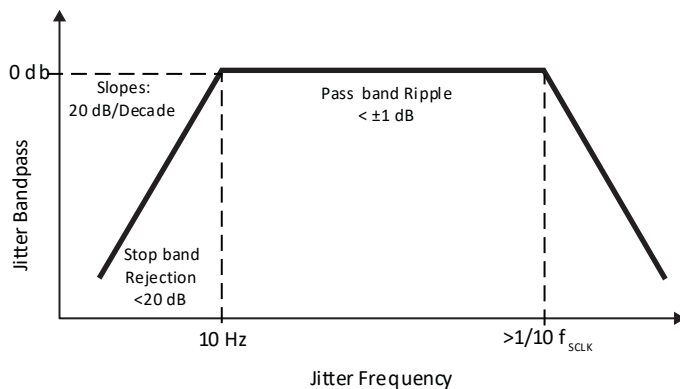

Figure 4.19. Test Loads
1. Timing jitter is measured in accordance with SMPTE RP 184-1996, SMPTE RP 192-1996 and the applicable serial data transmission standard, SMPTE 259M-1997 or SMPTE 292M (proposed). A color bar test pattern is used. The value of fSCLK is 270 MHz or 360 MHz for SMPTE 259M, 540 MHz for SMPTE 344M, or 1485 MHz for SMPTE 292M serial data rates. See the Timing Jitter Bandpass in Figure 4.19. Test Loads.